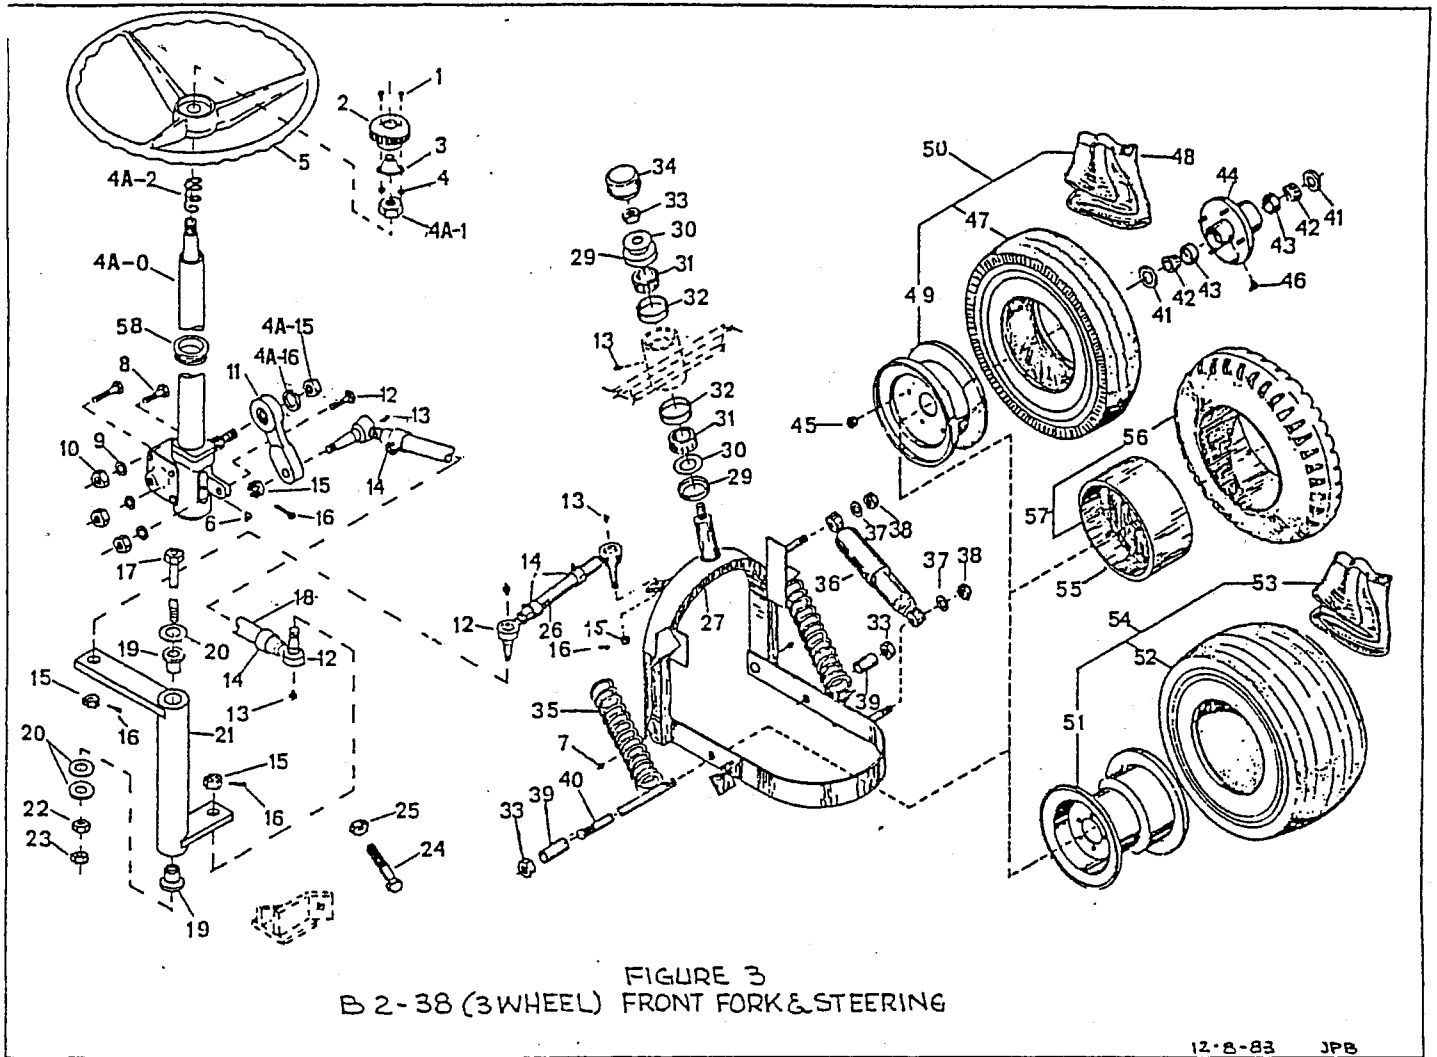

FIGURE 3
REFER TO FIGURE 3
2. Generously pack bearings with wheel bearing grease. Assemble 1 dust seal and bearing on spindle in reverse order of removal. Refer to figure 3 for proper location. Slide fork spindle through housing and insert upper bearing and washer.